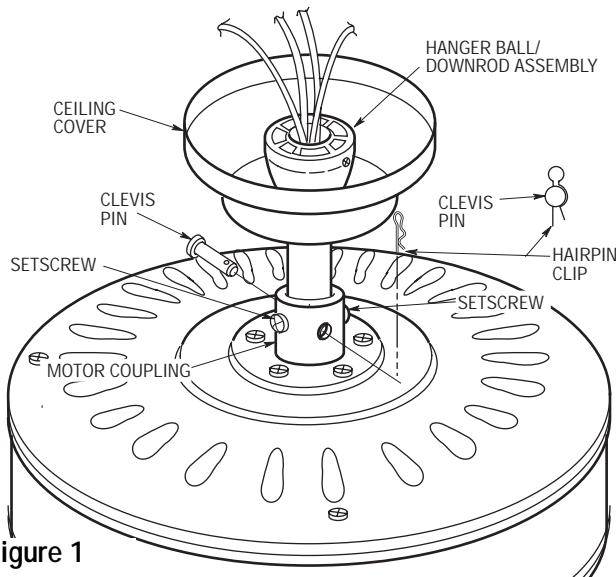

Figure 1
- 1. Pass the 80" motor leads through the opening in the ceiling cover. Be sure the cover is oriented correctly (Figure 1).
- 3. Remove the two setscrews from the motor coupling. Align the clevis pin holes in the downrod with the holes in the motor coupling. Install the clevis pin and secure with the hairpin clip (Figure 1). The clevis pin must go through the holes in the motor coupling and the holes in the downrod. Be sure to push the straight leg of the hairpin clip
- 4. Reinstall the two setscrews in the motor coupling. While pulling up on the hanger ball, securely tighten the setscrews (Figure 1).